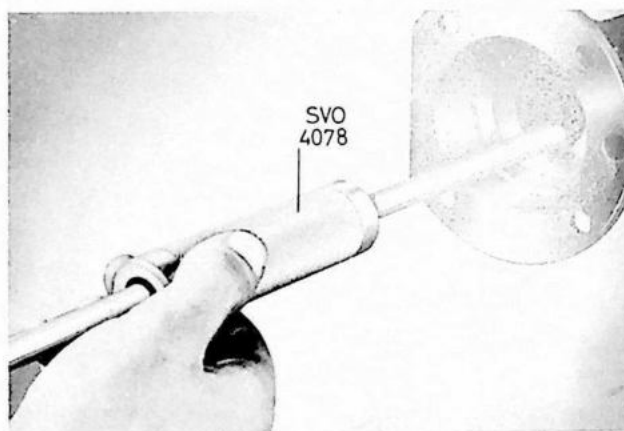

Fig. 3. Removing sealing ring.
3. Pull out the sealing ring with the help of SVO 4078, see fig. 3.